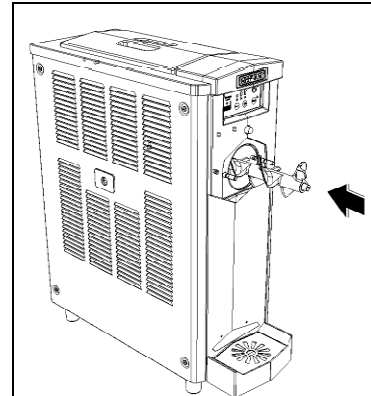

Fig. 28
- Once assembled, insert the beater carefully into the cylinder making sure that the rear shank fits perfectly in its seat within the cylinder (fig. 28).